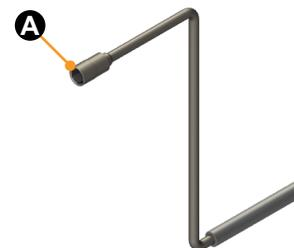

Fig.11
F. Turn the manual crank handle (Fig.11) clockwise until trailer is supported and the coupler clears the hitch ball.
I. Remove the manual crank handle (Fig.11).
F. Remove the manual crank handle (Fig.11).